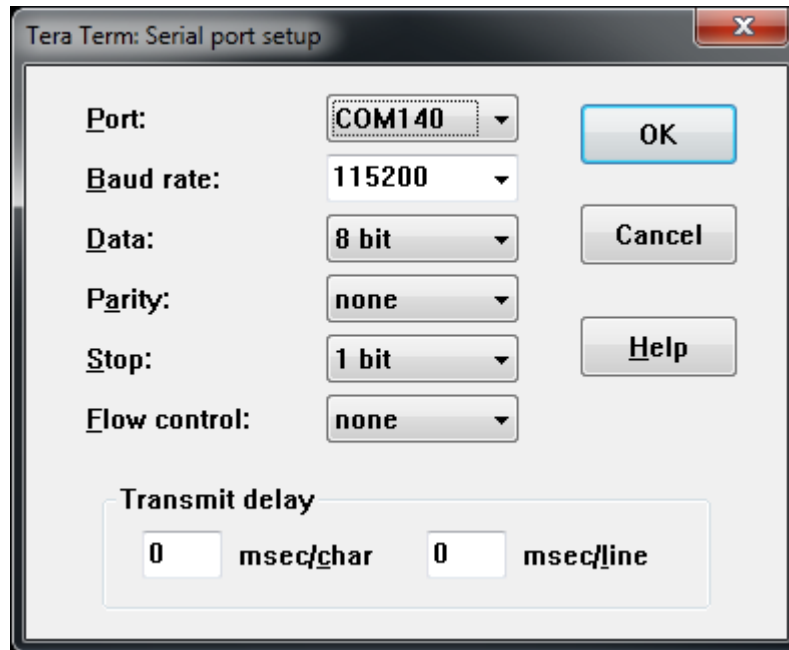

Figure 11. Serial port setting configuration
- 4) Set the **Baud rate**, **Data**, **Parity**, **Stop** and **Flow control** parameters (see Figure 11). Leave the **Transmit delay** fields with default values (0), and click **OK**.